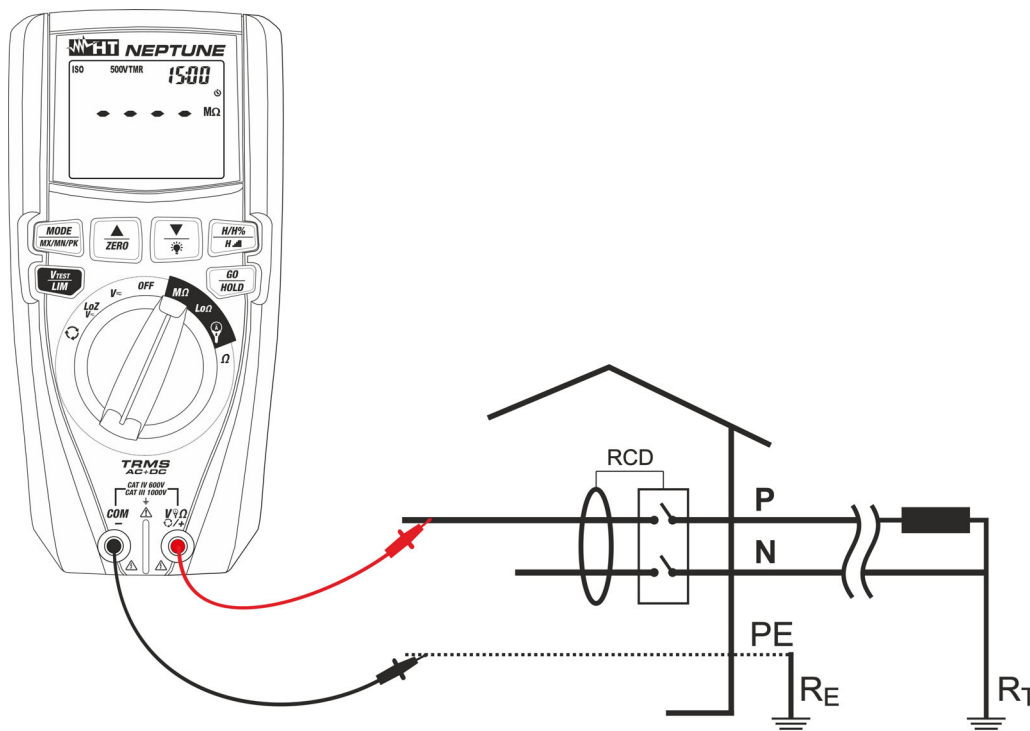

Fig. 19: Use of the instrument for insulation resistance measurement in TMR mode
6. Insert the red lead into input terminal **V Ω +/+** and the black lead into input terminal **COM/-** and possible alligator clips, and connect the instrument to the system to be tested (see Fig. 19).